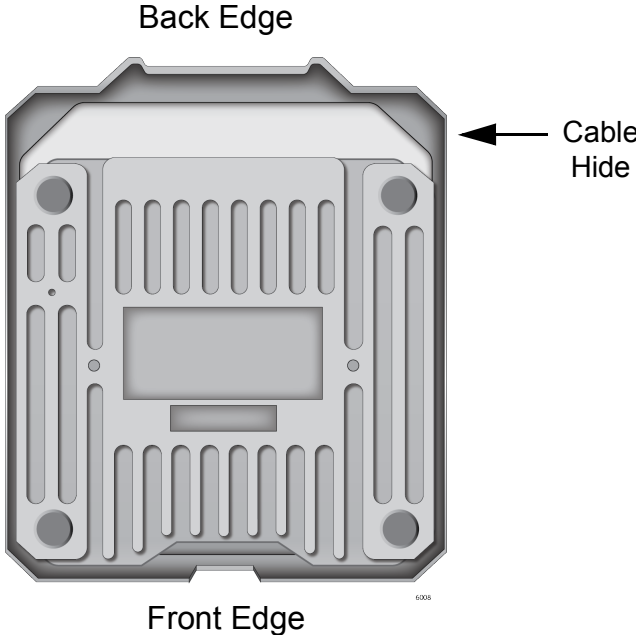

Figure 2. Access Point Bottom View
The bottom view is illustrated in Figure 2.
- Cable Hide** The top cover of the access point is larger than the access point chassis to create space on the back for cable connectors and cables shown in Figure 2 on page 25.